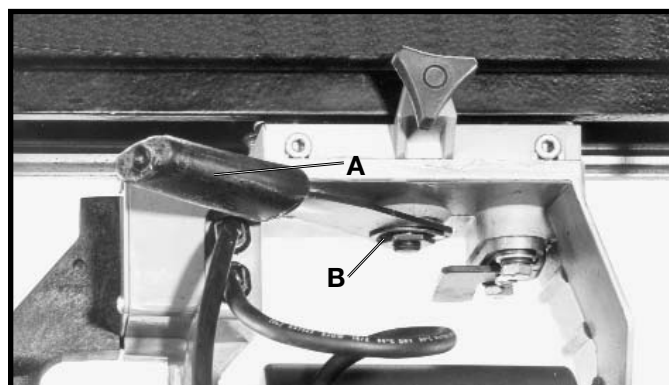

Fig. 70
When the yoke clamp handle (A) Fig. 70, does not lock in a convenient position, it can be repositioned as follows:
2. Remove retaining ring (B) Fig. 70.
3. Reposition yoke clamp handle (A) Fig. 70, on hex clamp nut.
4. Replace retaining ring (B) Fig. 70.